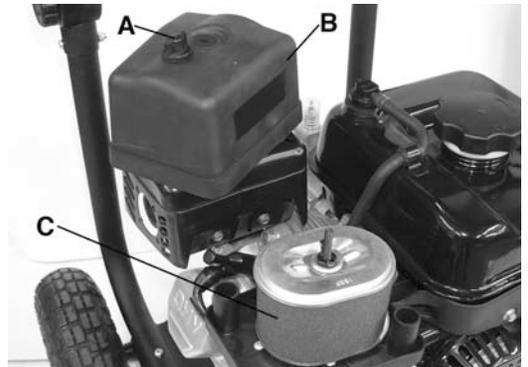

Figure 7
- 1) Remove the plastic nut (A) Fig.7 and remove the air cleaner cover (B).
- 2) Remove the air cleaner filter (C), wash filter in kerosene, squeeze kerosene out, soak filter in engine oil and squeeze engine oil out.